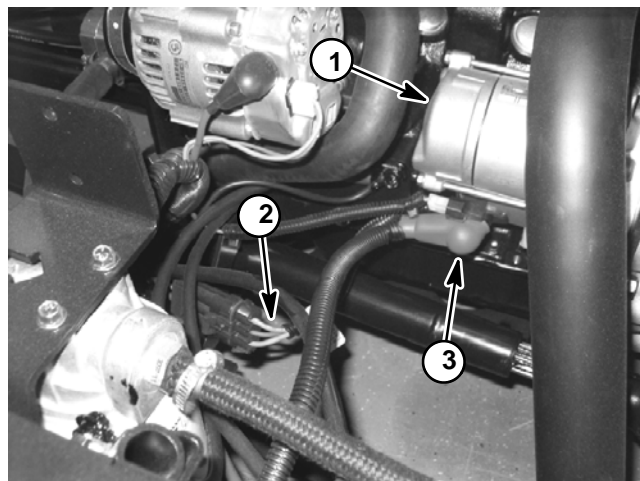

Figure 24
A Workman HD series vehicle uses three (3) fusible links for circuit protection. These fusible links are located in a harness that connects the starter B+ terminal to the vehicle wire harness (Fig. 24). If any of these links should fail, current to the protected circuit will cease. Refer to electrical schematics and wire harness drawings in Chapter 11 - Electrical Drawings for additional fusible link information.